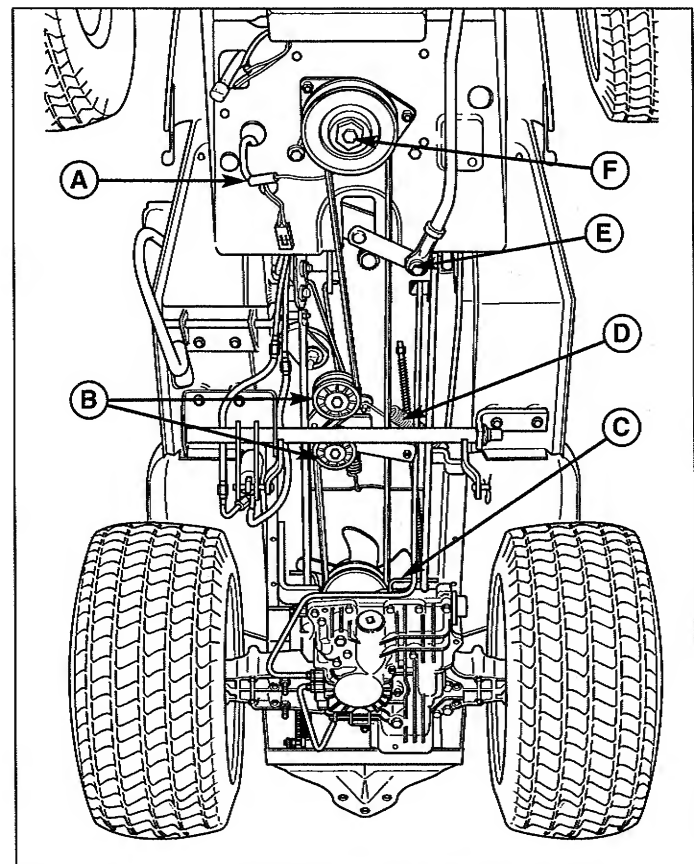

Figure 53. Transmission Drive Belt Replacement
3. Remove the transmission belt guide (C, Figure 53).
4. Loosen the idler pulleys (B).
5. Disconnect the steering arm (E) from the drag link.
6. Unplug the PTO clutch electrical plug (A). Remove the capscrew (F) securing the PTO clutch to the crankshaft. Remove the clutch.